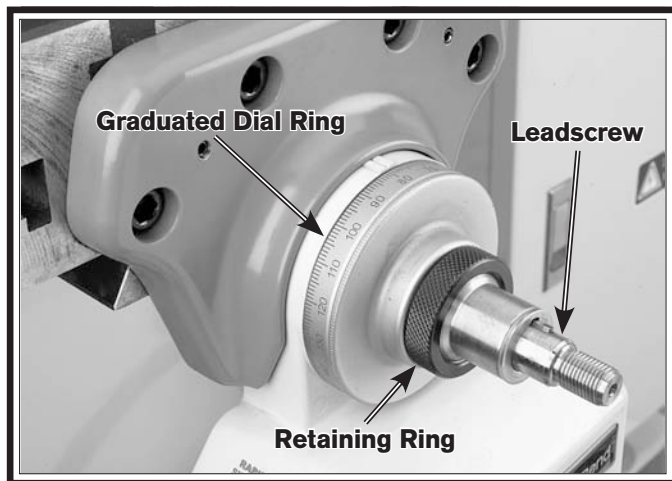

Figure 57. Power feed ball handle removed.
2. Remove the hex nut and ball handle from the power unit end of the longitudinal leadscrew (see **Figure 57**).